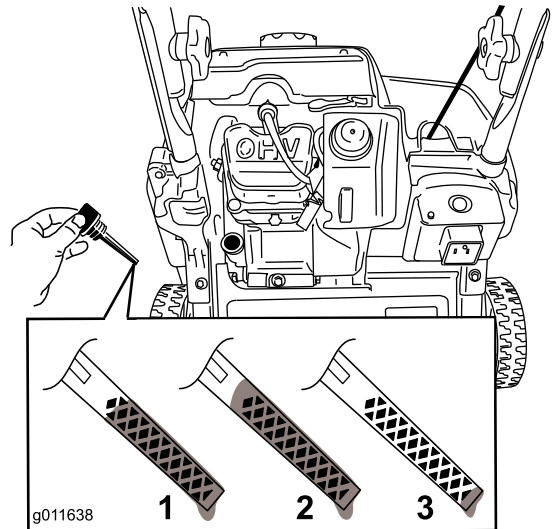

Figure 13
3. Clean around the oil fill cap (Figure 13).
8. To determine the proper oil level on the dipstick, refer to Figure 13.